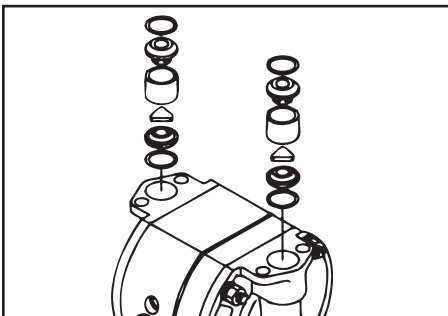

Figure 17
- Remove the ball/flat, valve seat and O-ring (See Figure 17).